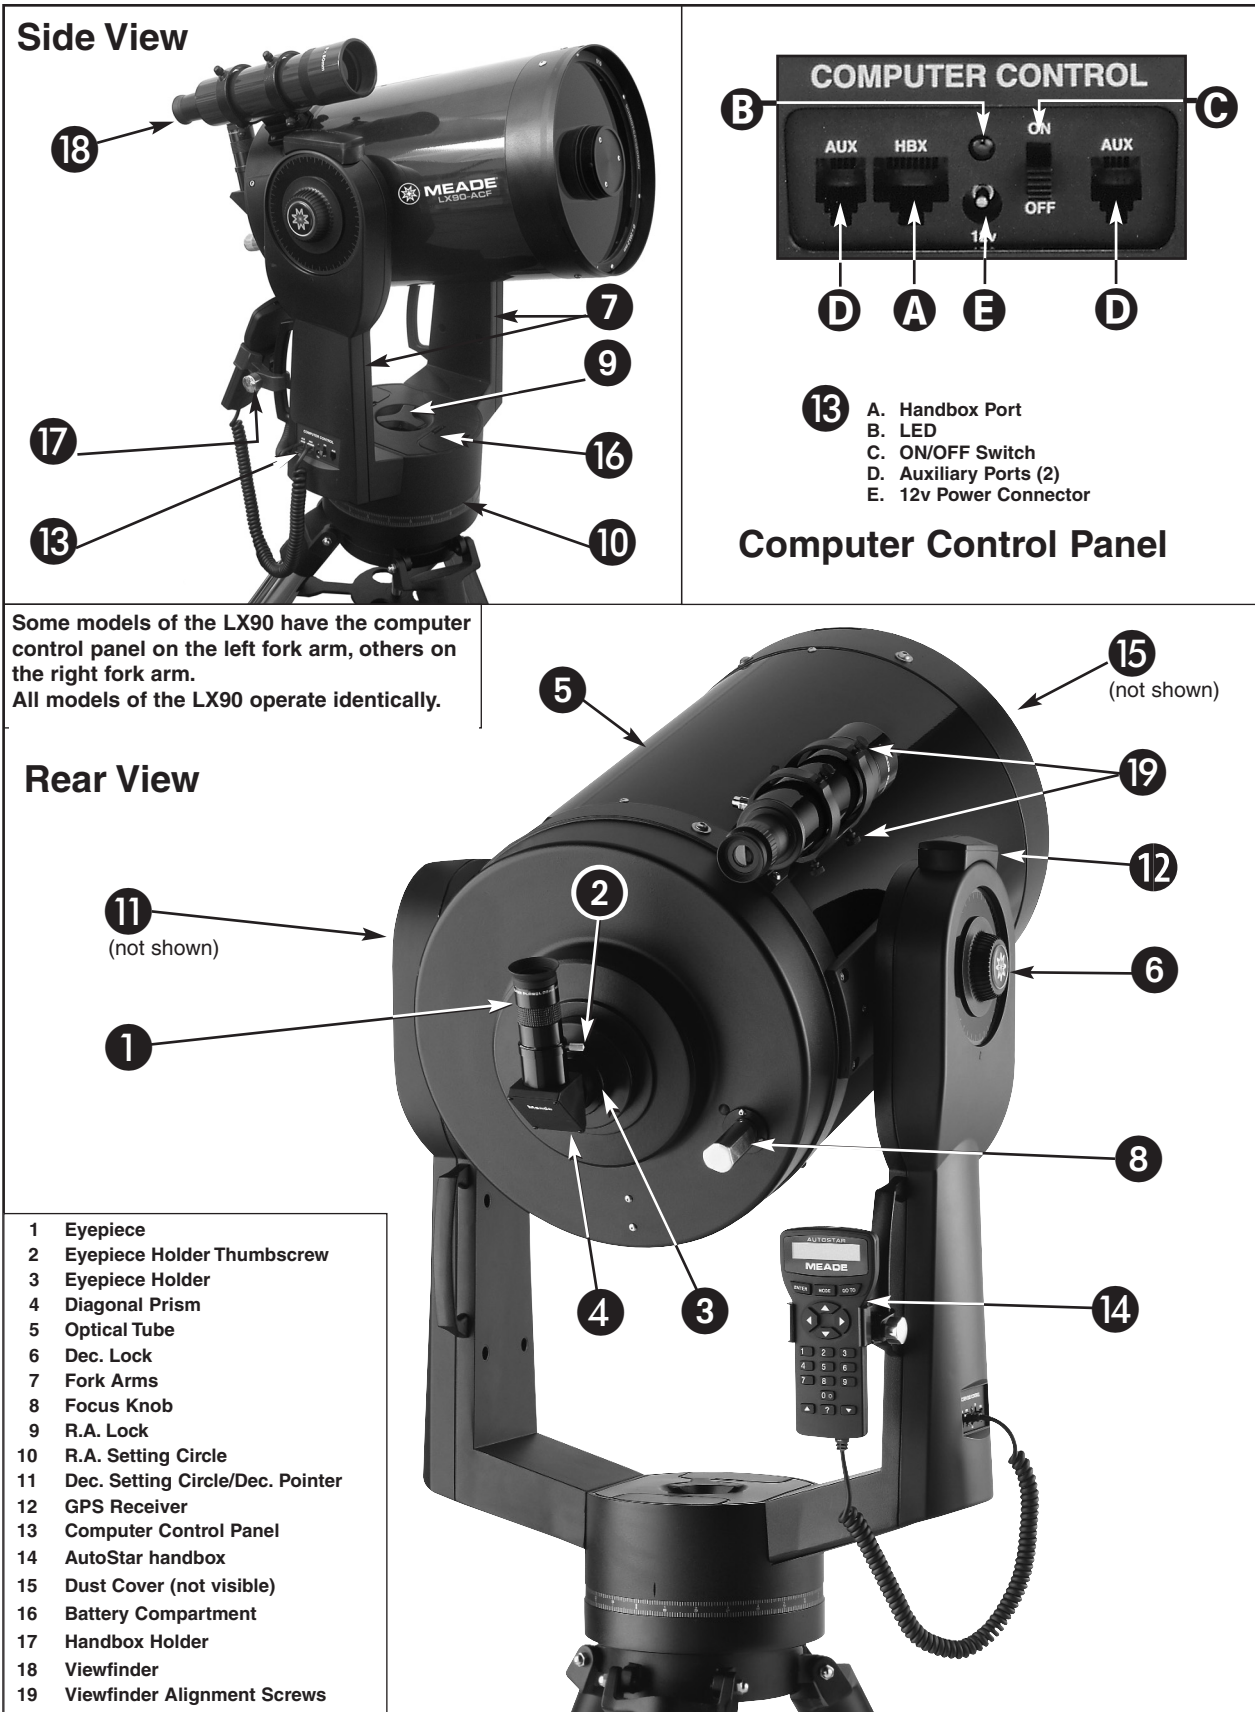

Fig. 1: The LX90 Telescope and AutoStar Handbox.
4. Tighten, to a firm feel only, the Dec. and R.A. locks (Pg. 7, Fig. 1, 6 & 9). Remove the dust cover from the end of the telescope tube.
Sight along the side of the telescope's main tube to locate an object. Use the telescope's focus knob (Fig. 1, 8) to bring the object into focus. Practice using the AutoStar's Arrow keys to center an object in the telescope's field of view.
- 1 **Eyepiece:** Place the Super Plössl 26mm eyepiece into the 90° diagonal prism (**Pg. 7, Fig. 1, 4**) and tighten in place with the thumbscrews. The eyepiece magnifies the image collected in the optical tube.
- 4 **Diagonal Prism:** provides a more comfortable right angle viewing position. Slide the diagonal prism directly into the eyepiece holder (**Pg. 7, Fig. 1, 4**).
*NOTE: The Dec. lock knob is a knurled knob located on the fork arm to the right of the focus knob (**Pg. 5, Fig. 1, 8**).*
*CAUTION: When loosening the Dec. lock, be sure to support the optical tube (**Pg. 5, Fig. 1, 5**). The weight of the tube could cause the tube to swing through the fork arms suddenly.*
- 10 Coil Cord:** Plug one end of the AutoStar coil cord into the HBX port (**Pg. 7, Fig. 1, 13A**) of the computer control panel of the telescope and the other end into the coil cord port (see **9** above).